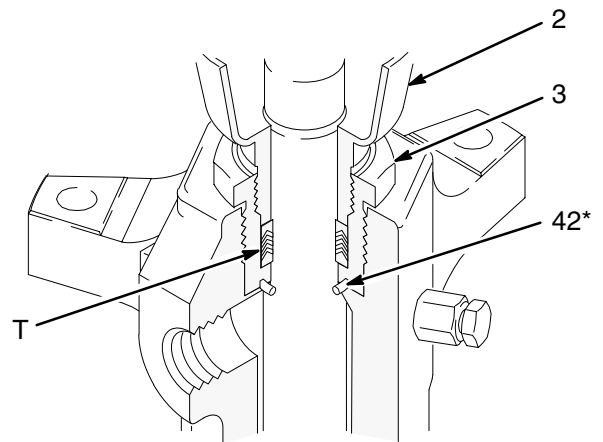

Fig. 10
7. Using a rubber mallet, drive the displacement rod (1) and the priming piston rod (18) out of the outlet housing (9) and cylinder (10). Inspect the outer surfaces of the rods for damage by running a finger over the surface.
8. Unscrew the packing nut (2). Unscrew the packing housing (3) and remove the seal (42). Remove the throat glands and packings (T). See Fig. 10.